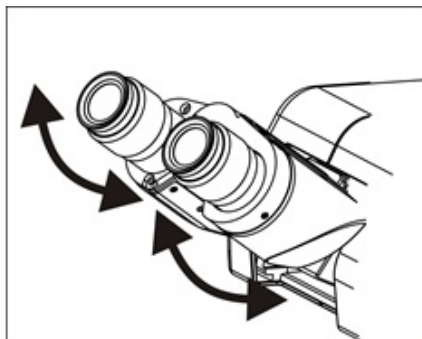

Fig. 19
5.4. Adjusting the Interpupillary Distance (Fig. 19)